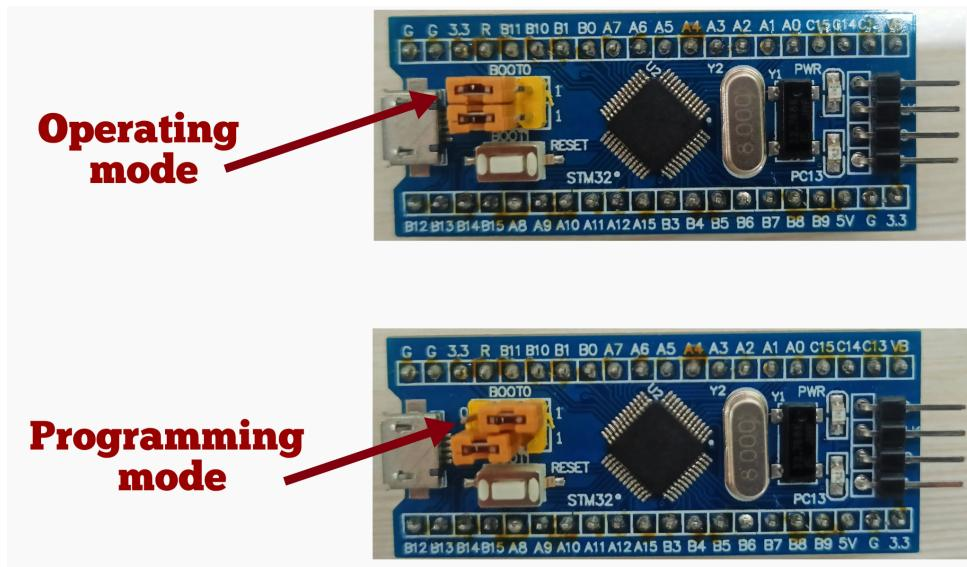

Fig. 14.2: STM32 Operating and Programming mode
8. See how to enable programming mode in Fig. 14.2. This configuration will ensure that the microcontroller enters the system memory programmer on reset.
11. Change the STM32 board to operating mode as shown in Fig 14.2 in order to run your code from the main flash memory.